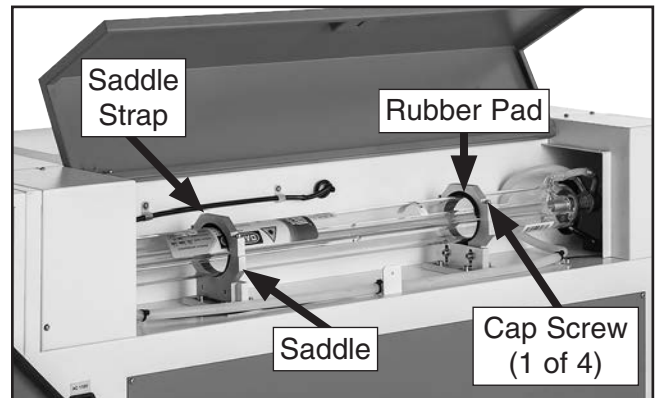

Figure 91. Laser tube saddles installed.
21. Clean rubber pads on saddle straps and place on laser tube above saddles, as shown in **Figure 91**.